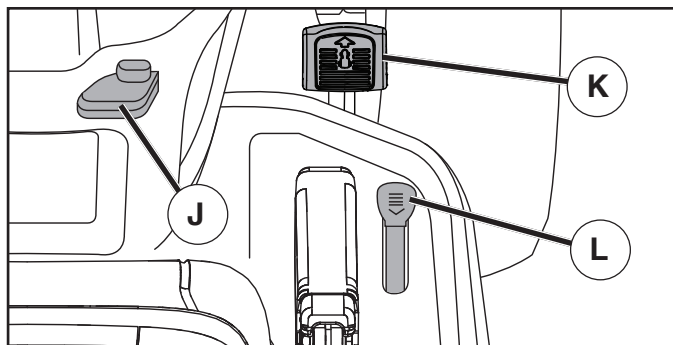

Fig. 9
TO MOVE FORWARD AND BACKWARD (See Fig. 9)
TO USE CRUISE CONTROL (J) (See Fig. 9)